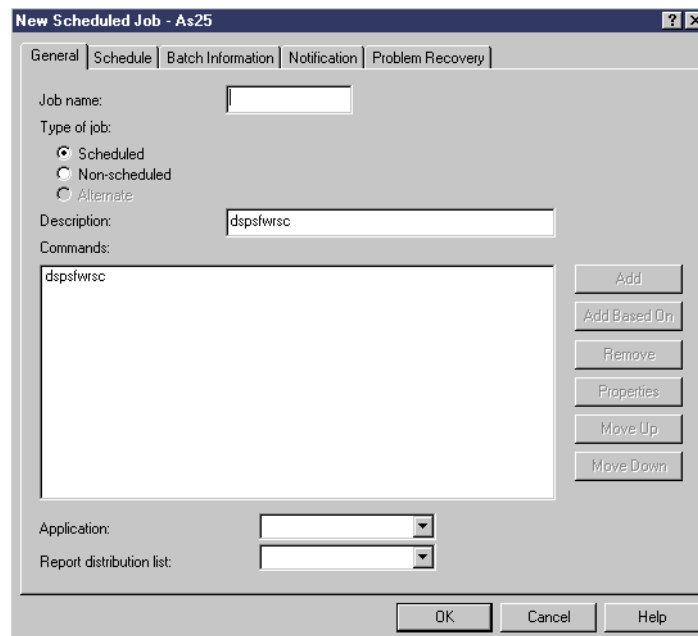

Figure 132. Schedule display
4. Select **Schedule**. A dialogue box similar to the example shown in Figure 132 appears. Note that this screen is different than the dialogue box displayed when using the Management Central scheduler.